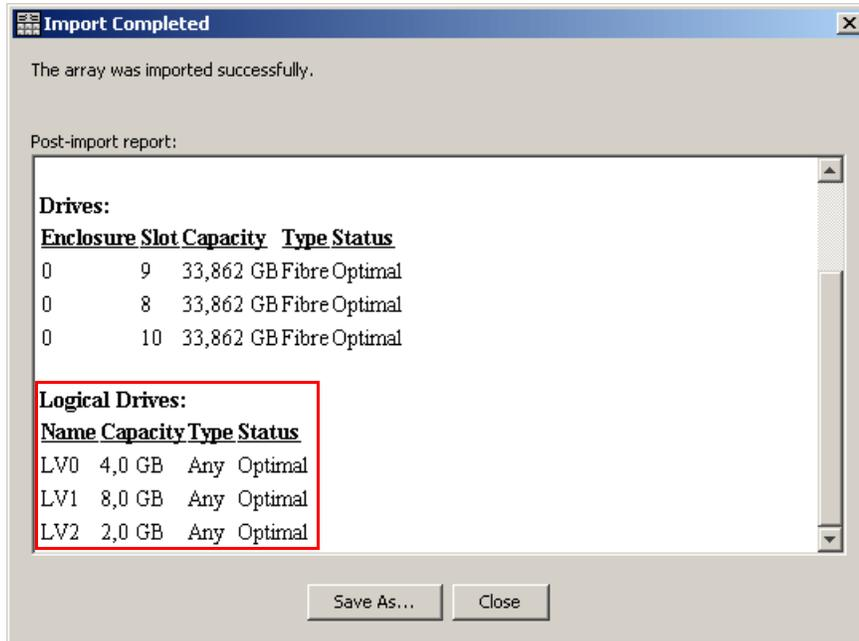

Figure 12-43 Import success
- The next window (Figure 12-43) displays the result of the import process. Make sure that the operation finished successfully, and scroll down the window to see the logical drives imported with the array. Make sure that all of them are available and click **Close** to terminate the dialog.